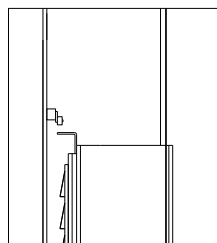

Fig.17
4. If the lift reaches to the maximum height, push the button to stop it(Fig.17).
7. If the moving part exceed its travel distance, on the upper part of the command post there is two limit switches connected in series and are usually set working by the “actuator”(fig.17) on the command side carriage. If the first limit switch did not work, the second one would trip after 3sec of carriage run.